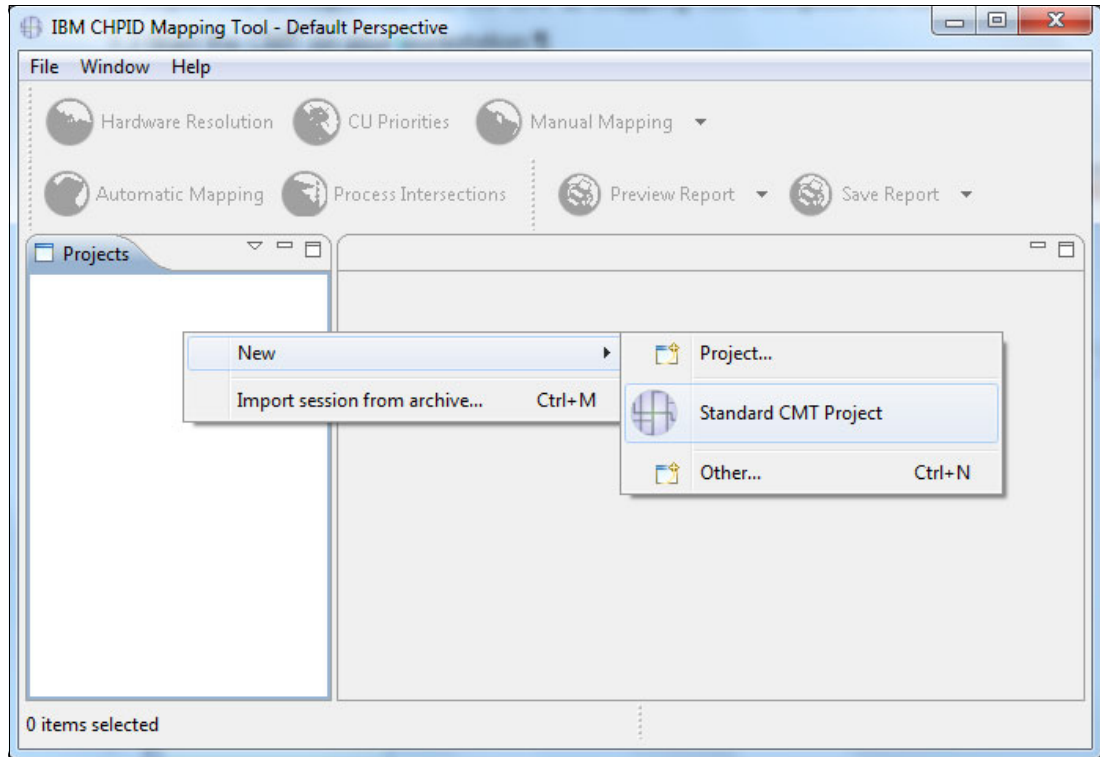

Figure 5-61 CMT - Creating a new CHPID Mapping Tool Project
2. Right-click the Projects pane and select **New** → **Standard CMT Project** (Figure 5-61).